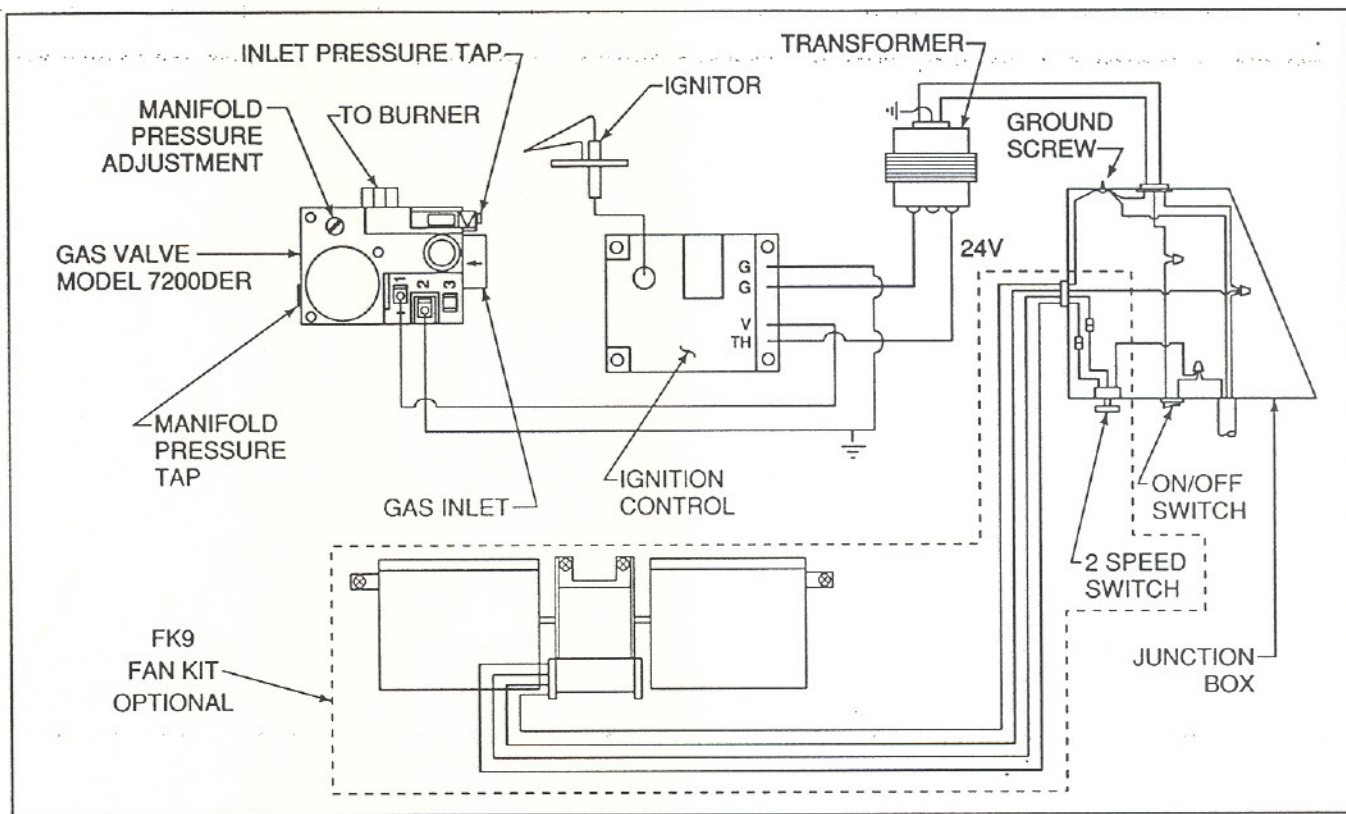

Figure 4
A wall switch should be installed in a convenient location. Follow Figure 4 for wiring diagram. This appliance requires a 110V power supply. The appliance must be electrically wired and grounded in accordance with local codes or, in the absence of local codes, with National Electric Code ANSI/NFPA 70-1984 or, in Canada, the current CSA C22.1 Canadian Electrical Code. If an optional FK9 Fan Kit or RC5 Remote Control Kit are to be installed, follow the wiring diagrams that are provided with these accessories and Figure 4.
LIGHTING PROCEDURE (See Figure 4)
B. No ground.	Check that wiring is grounded as shown in Figure 4.